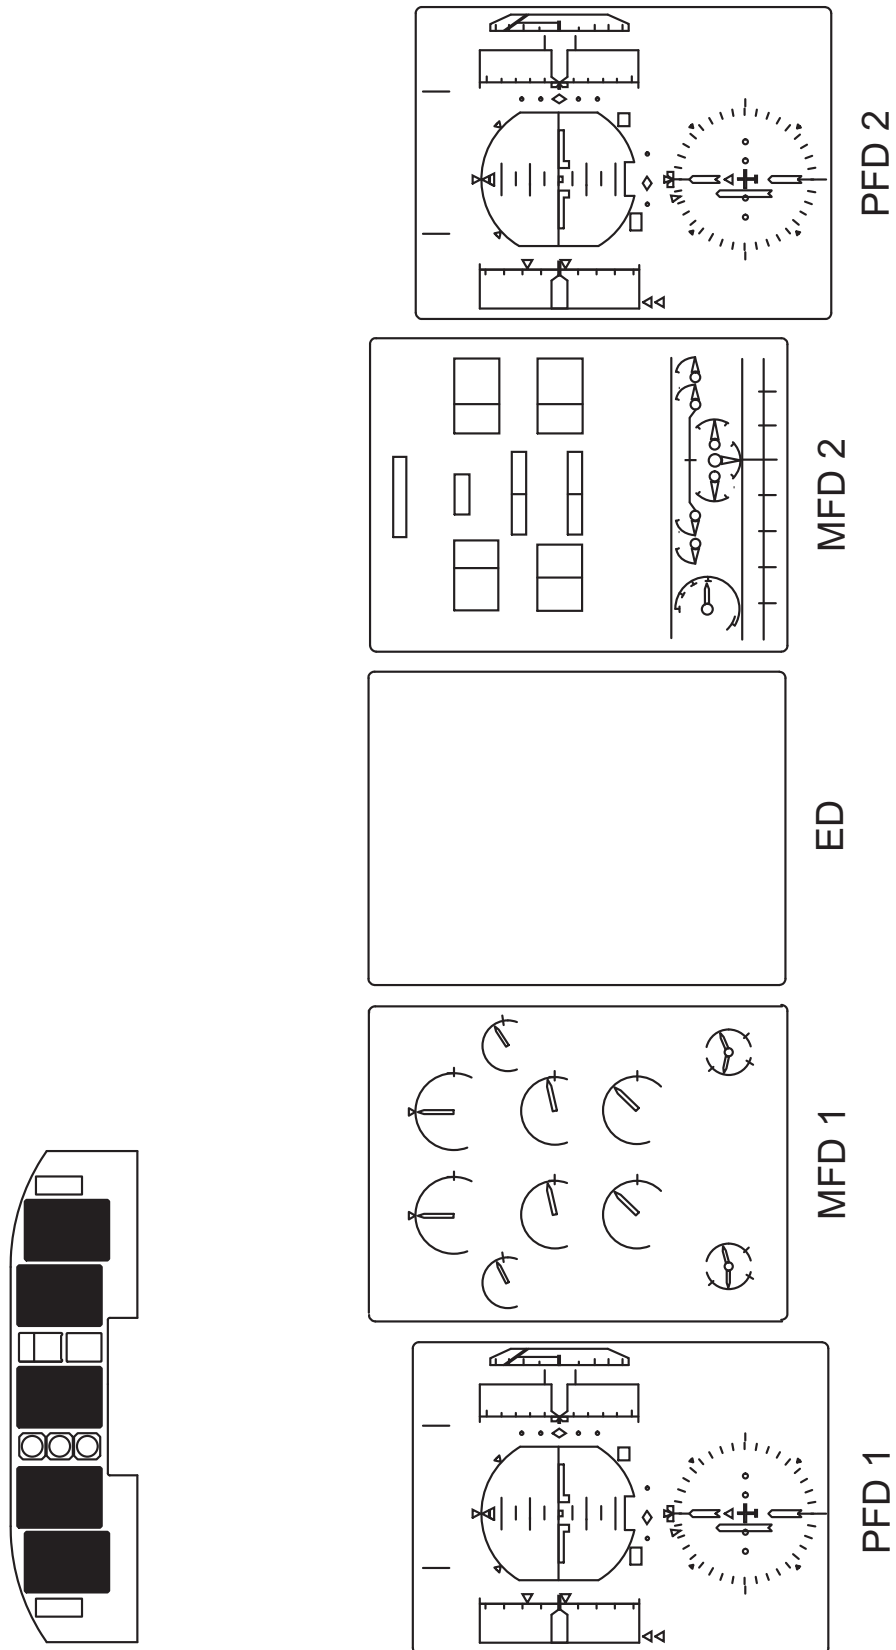

Figure 12.12-44 ED Failure with Auto Reserve to MFD1
ED data will automatically revert to MFD1 (Figure 12.12-44) when the ED/DU is not valid for more than one (1) second and if: